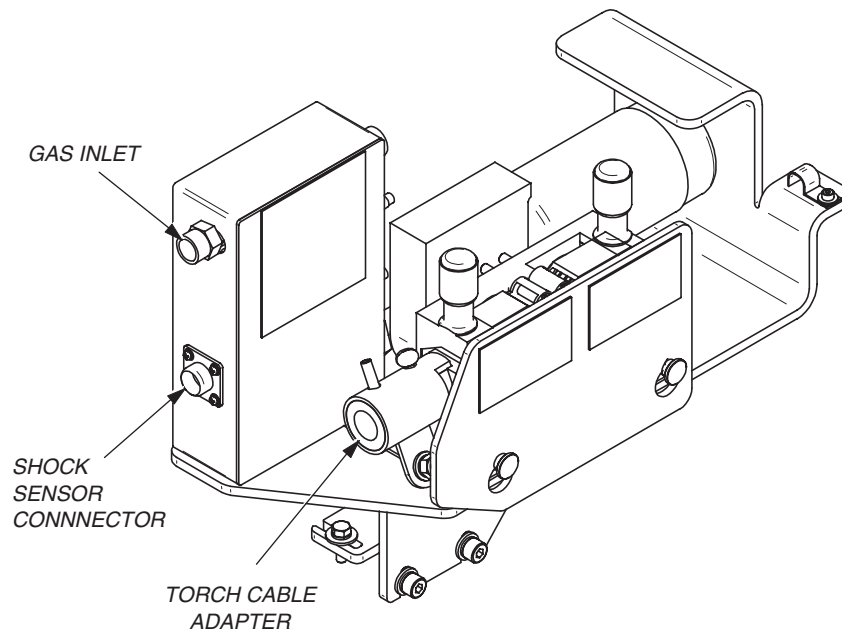

Figure 7 Impact Sensor/Feeder to Controller Cable Connection Points
1. Connect impact sensor cable to front of wire feeder (see Figure 7).